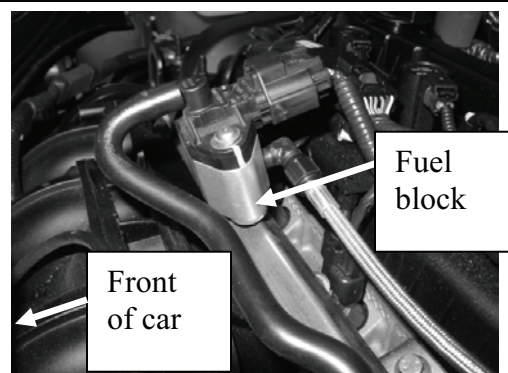

FIGURE 32
52. Pull the fuel pressure sender out of the fuel rail and insert the fuel junction block between the fuel rail and pressure sender. Install the block so the threaded opening stays pointed towards the front of the vehicle. **(FIGURE 32)**
54. Thread the 1/8" NPT end of the supplied red 90 degree fitting into the fuel junction block. **NOTE: DO NOT USE TEFLON TAPE OR PIPE DOPE!** The 90 degree fitting must be installed so that the -4 end points towards the driver's side front of the vehicle. Keep in mind that the -4 end has a tapered sealing surface on the edge. **(FIGURE 32)**